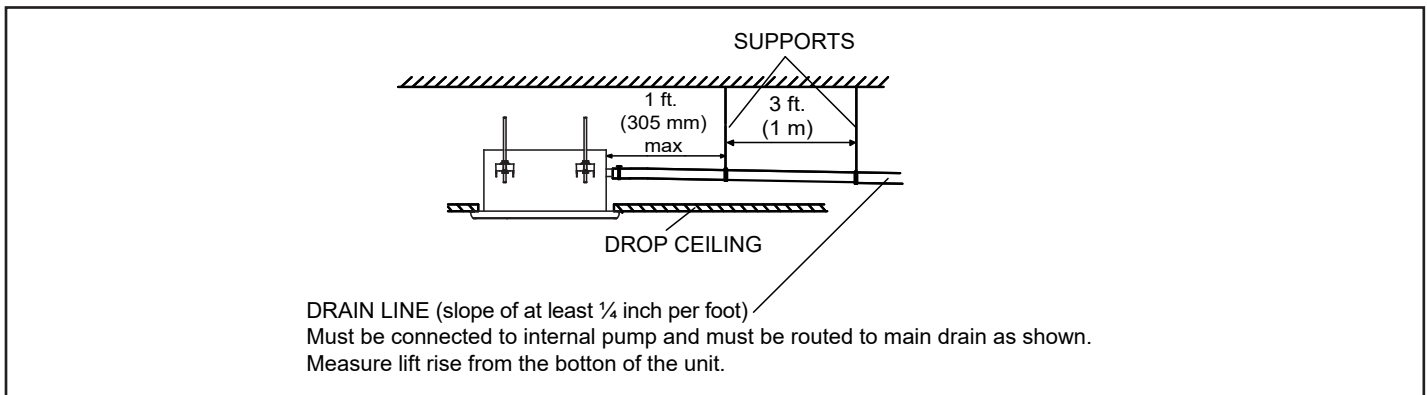

Figure 7. Sloped Condensate Drain -- Single Unit
3. See Figure 7 for applications including a single unit and a single drain. In this case, ensure that the drain line is properly sloped (no less than 1/4 inch per foot) and condensate lines are routed to ensure moisture is drained away from the indoor unit.